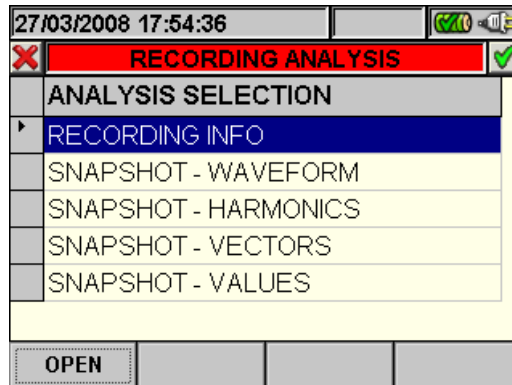

Fig. 114: Recording analysis (Istant-type data)
2. Press the **ESC** key (or the smart icon  on the display) to exit the function and go back to the "Recording analysis" page (Fig. 114).
- The **ESC** key (or the smart icon on the display) to exit the function and go back to the "Recording analysis" page (Fig. 114).
- The **ESC** key (or the smart icon  on the display) to exit the function and go back to the "Recording analysis" page (Fig. 114)
- The **ESC** key (or the smart icon  on the display) to exit the function and go back to the "Recording analysis" page (Fig. 114).